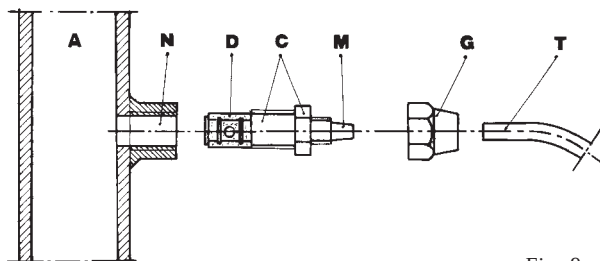

Fig. 9
- g. - Select the most appropriate injection point on a pipe of the plant to be treated and there fit a 3/8" female steel gas thread connector (similar to BSPm). This connector is not supplied with the pump. Screw the injection valve to the gas connector, inserting a gasket as shown in Fig. 9. Then connect the discharge hose to the conical connector on the injection valve and fix it with the supplied tube nut G. The injection valve also acts as a no return valve by means of a cylinder sleeve (elastomer, standard supplied in Viton).
DIAGRAM Fig. 9